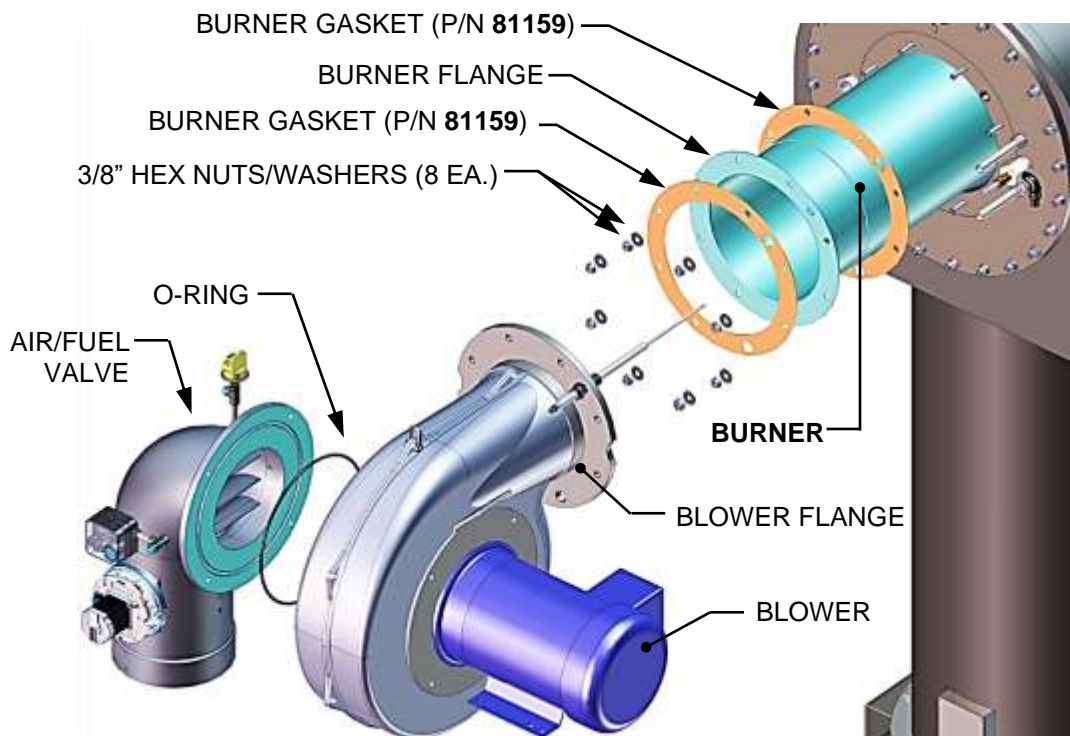

Figure 4-6: Burner Assembly – Exploded View
- and damage other equipment components. Refer to the exploded view in Figure 4-6.
22. Remove and replace the two (2) Burner Gaskets (see Figure 4-6) and clean the gasket surface on the burner front plate.
23. To reassemble, begin with the Burner assembly and reinstall all the components in the reverse order that they were removed. The Burner may have a nut installed at the base position to keep the Burner level while installing the Blower (Figure 4-6).